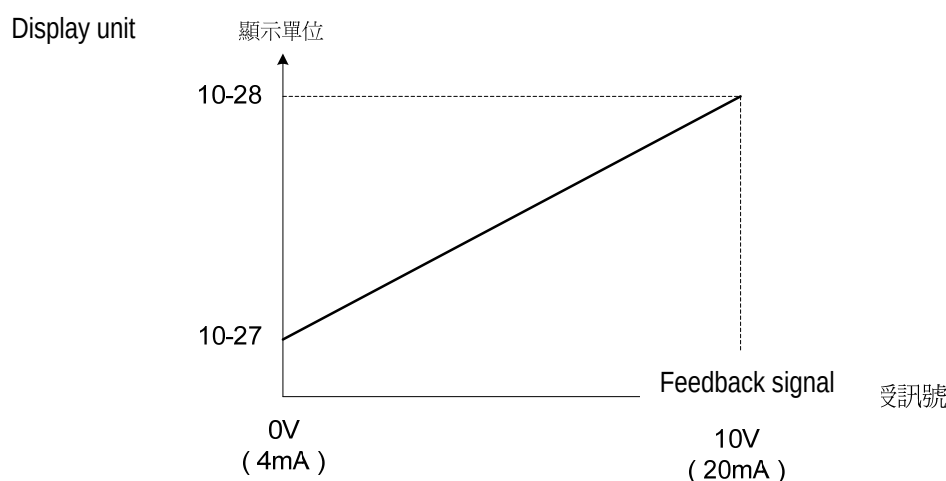

Figure 4.3.84 Display the unit conversion
- Refer to the figure 4.3.84 for displaying the unit conversion.